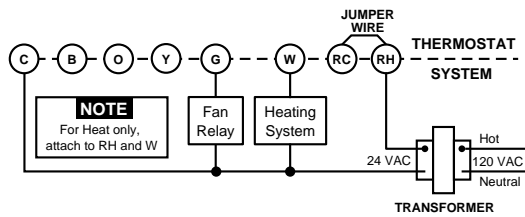

Figure 2. Typical wiring diagram for heat only, 4-wire, single transformer systems
2. Connect wires beneath terminal screws on base using appropriate wiring schematic (see figs. 2 through 7).